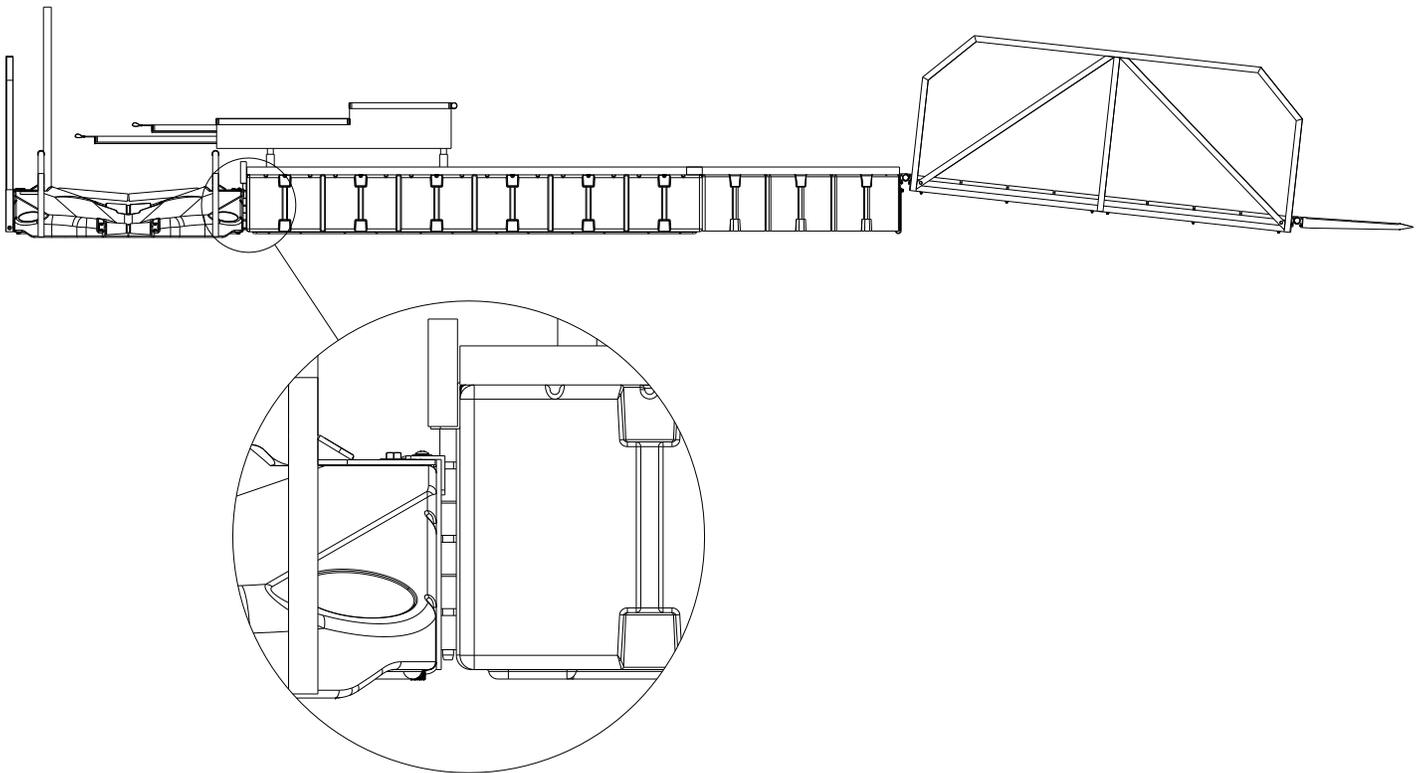

Figure 18
- Align hinge tabs with the longer hook hinge tabs above the shorter hook hinge tabs then insert pin through hinge and secure in place using clips provided as shown in Figure 18.
- Drill 1/2" hole in dock centered at the bottom of a coupler pocket, Figure 18. Placement of this hole should be placed in a pocket that will not be used in the installation. All unused pockets should be filled with a EZ Dock pocket filler (Part Number 201030)